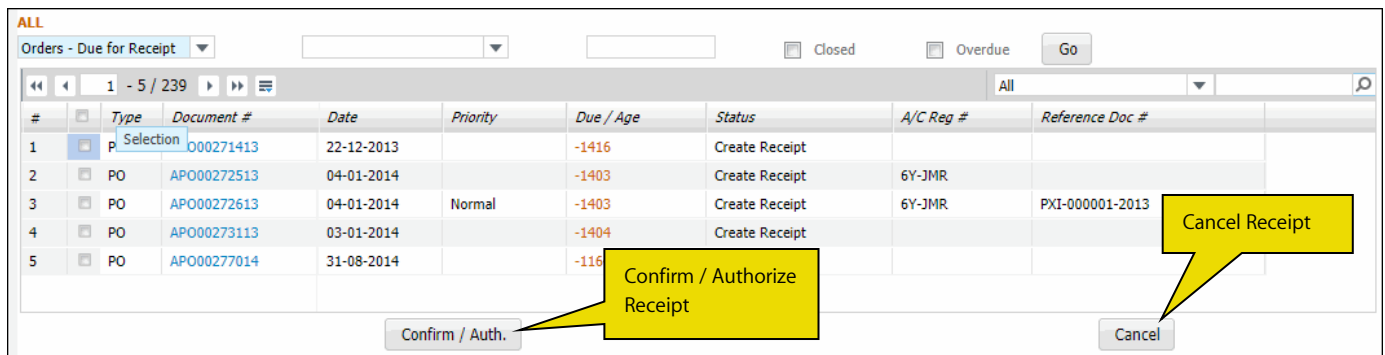

Figure 2.8 Confirming / canceling receipts
1. Select a record in the multiline of the 'Document List Panel' in the **External Receiving** function. See Figure 2.8.